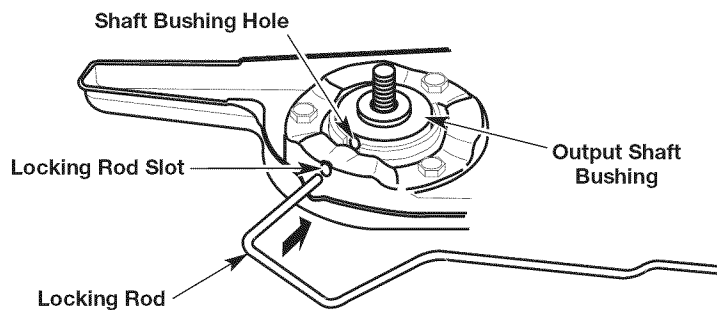
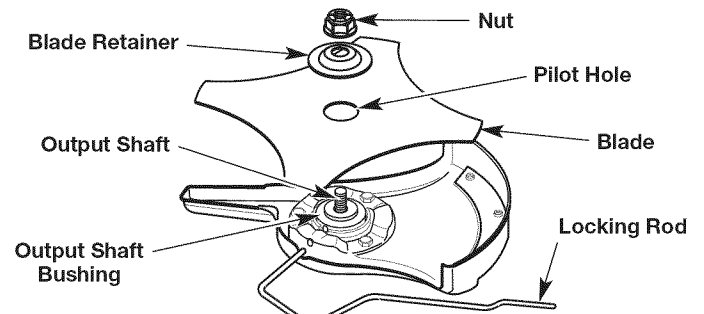

Fig. 14
Fig. 16
1. Rotate the blade (Fig. 16) until the shaft bushing hole aligns with the locking rod slot (Fig. 14).
2. Insert the locking rod through the locking rod slot and into the shaft bushing hole (Fig. 14).
5. Remove the locking rod. Remove the lock nut, blade retainer and blade (Fig. 16). Keep the lock nut and blade retainer for installing the new blade.
1. Rotate the output shaft bushing until the shaft bushing hole aligns with the locking rod slot (Fig. 14).
4. While holding the locking rod in place, lower the blade onto the output shaft bushing (Fig. 16).
WARNING: To avoid serious personal injury, make sure that the pilot hole on the blade is sitting flat against the output shaft bushing (Fig. 16). The unit will vibrate and the blade may fly off if the blade is not centered.
5. Place the blade retainer onto the output shaft with the flat surface against the blade (Fig. 16).
6. Screw the nut onto the output shaft (Fig. 16).